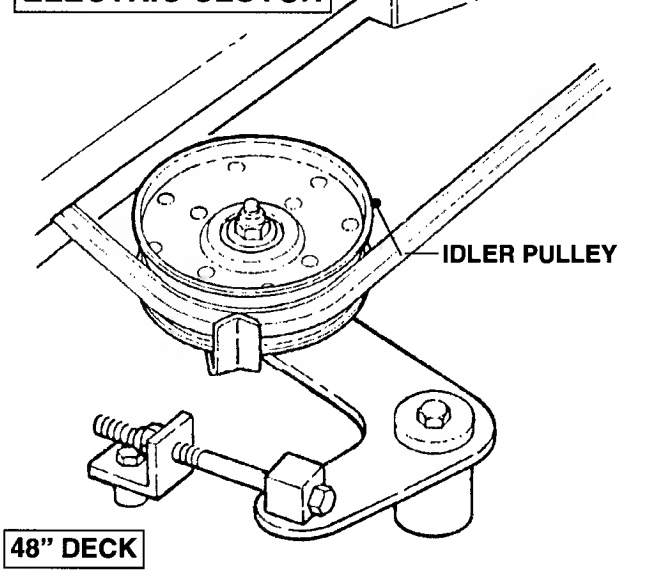

FIGURE 5.32
4. If Belt needs adjusting, tighten or loosen the Idler Pulley until Belt tension is correct. See Figure 5.32.